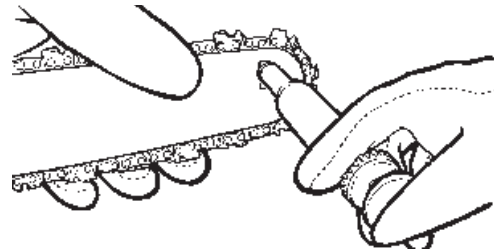

Fig. 37
3. Using the Lube Gun (optional), insert tip of lube gun into the lubrication hole and inject grease until it appears at outside edge of sprocket tip (Fig. 37).